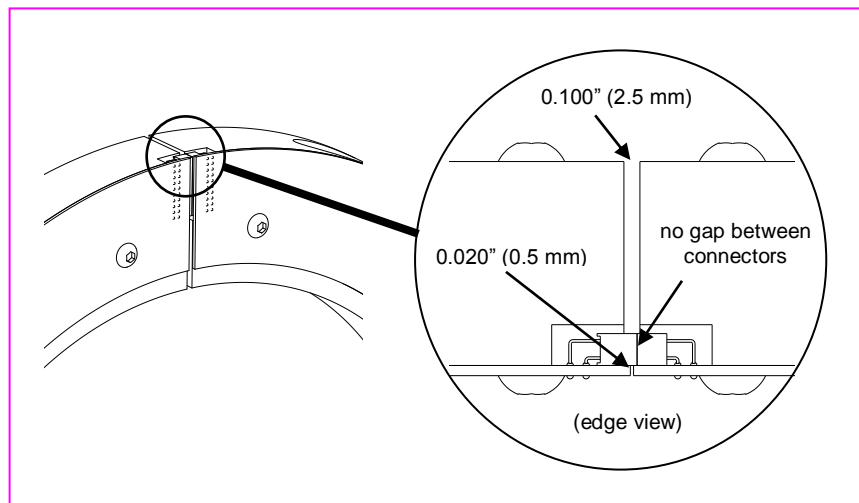
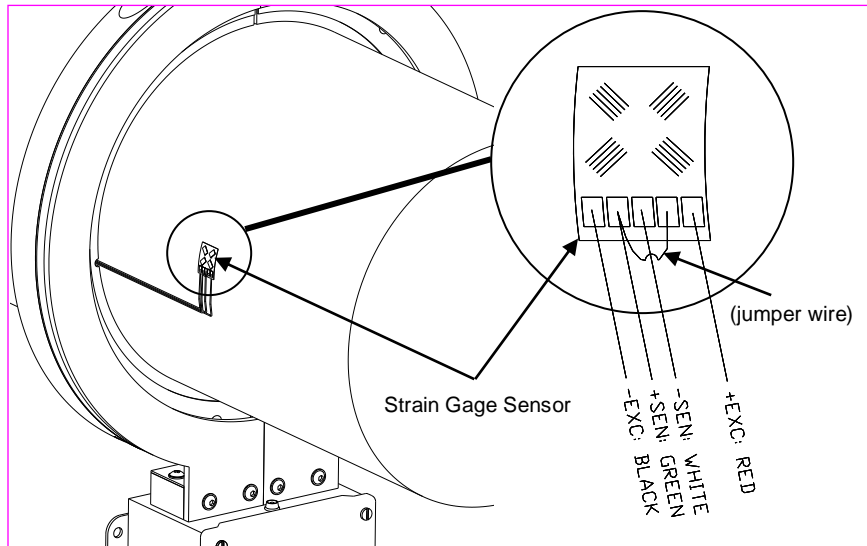

Figure 9 - Correct Collar Gap Spacing
Figure 10 - Strain Gage Connections
2. Remove large bolts from Rotating Collar if necessary to separate parts. Apply anti-seize compound (provided) to the bolt threads. Reassemble collar on shaft adjacent to gage with ribbon cable from collar leading towards gage. (Refer to Figure 1 on page 3 or Figure 10 on page 20.) Make certain that connectors are properly aligned. Install opposing collar bolts from opposite directions to maintain balance. Tighten alternate bolts evenly until gap between collar halves is .100" (2.5mm) at all junctions. (See Figure 9 below.)
4. Securely mount Master Control Unit to machine or mounting bracket (not provided) so that the back surface of the Collar aligns with the back edge of the Mounting Block. (Refer to Figure 1 on page 3 or Figure 10 on page 20.) Additional support for the Power Coil may be required depending on the size and application; mounting tabs are incorporated into the larger Power Coil designs and brackets are included.
10. Trim ribbon cable from Rotating Collar to length and retain the star bridge. (The star bridge has a built-in led that may be used to troubleshoot future errors.) Connect (solder) cable to sensor. (Refer to Figure 10 below.) Note: Keep ribbon cable as short as practical (6 to 8 inches typical) to avoid unwanted electrical noise. For long cable runs consider using shielded cable. Secure ribbon cable to shaft using adhesive or fiberglass tape or more permanent methods as appropriate.